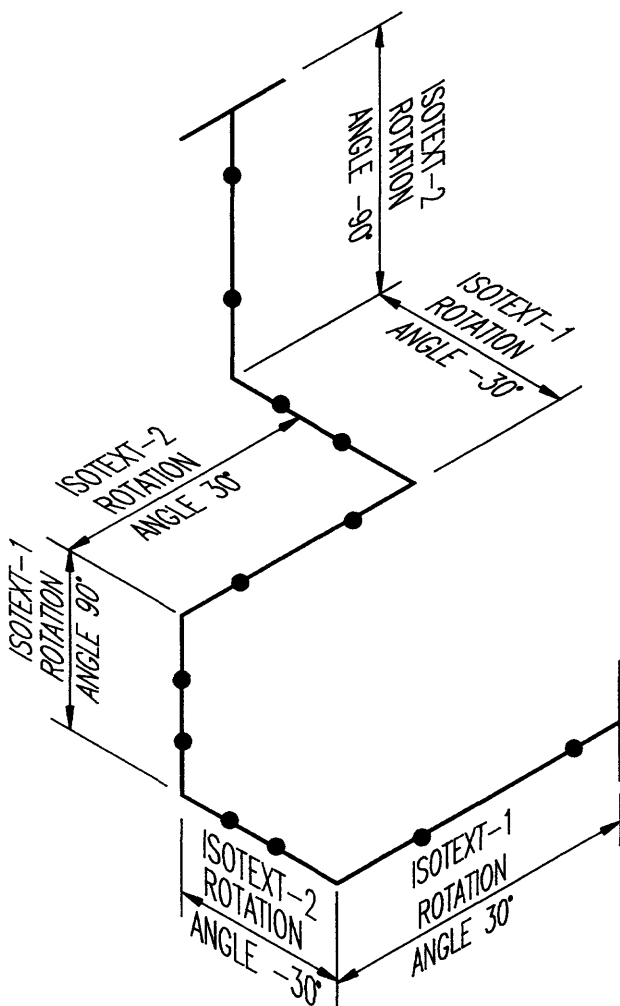

Figure 13-15. Isometric text.
Step 3. Depending upon the **ISOPLANE** being used, set the *rotation angle* in the **DTEXT** command to the appropriate setting as represented in Figure 13-15.